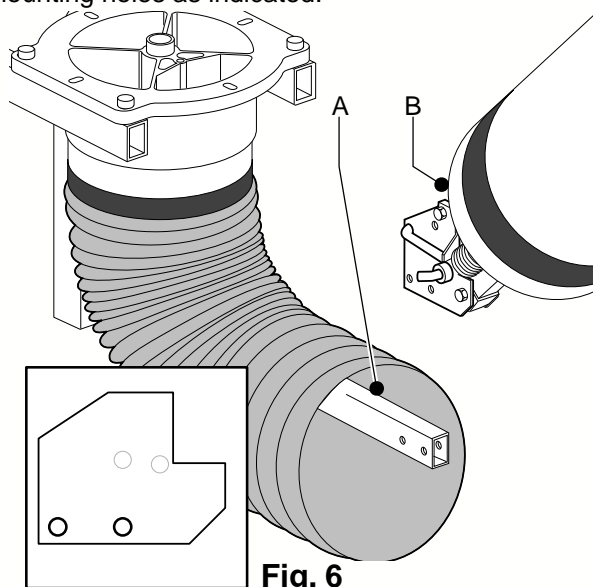

Fig. 6
Put another rubber band on the top of the arm. Use (2) 1.75" bolts with nuts to mount the arm (Fig. 6, Item B) to the hanging adapter (Fig. 6, Item A), using both mounting holes as indicated.